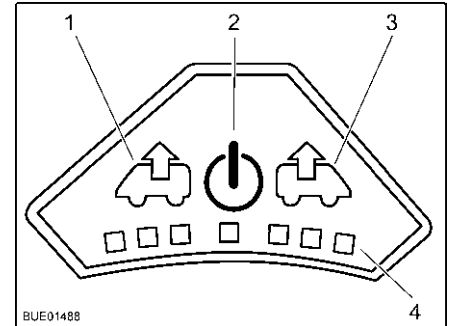

Fig. 95 Control panel for fan
**Switching on:** ■ Press the On/Off button (Fig. 95,2). The fan runs in comfort mode (venting at slowest fan speed).
**Venting:** ■ To increase the fan speed: Press the Vent button (Fig. 95,1). The fan speed in the venting direction increases by one level. LEDs (Fig. 95,4) show the operating levels.
■ To lower the fan speed: Press the Aerate button (Fig. 95,3). The fan speed decreases by one level.
**Aerating:** ■ To increase the fan speed: Press the Aerate button (Fig. 95,3). The fan speed in the aerating direction increases by one step. LEDs (Fig. 95,4) show the operating levels.
■ To lower the fan speed: Press the Vent button (Fig. 95,1). The fan speed decreases by one level.
- Press the On/Off button (Fig. 95,2). The fan stops, the LEDs go out.